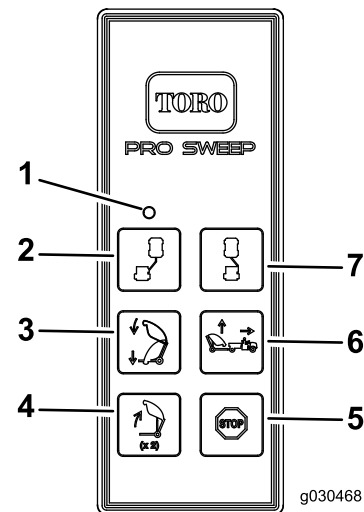

Figure 28
2. Press the hopper-dump button for 1 second, release the button for 1 second, and press the hopper dump button again (Figure 28).